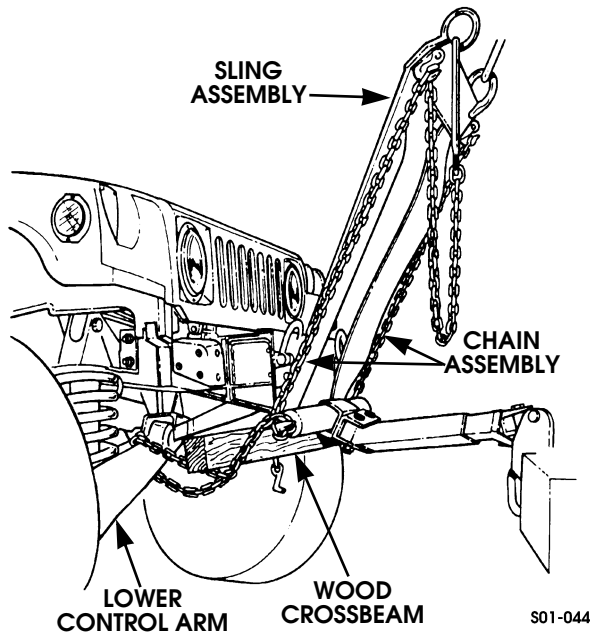

Figure 1-14: Front Towing With Conventional Equipment
1. Loop chains around lower control arms and secure to tow sling (Figure 1-14).
2. Insert 4" x 4" x 48" length of wood between bumper and sling chains (Figure 1-14).